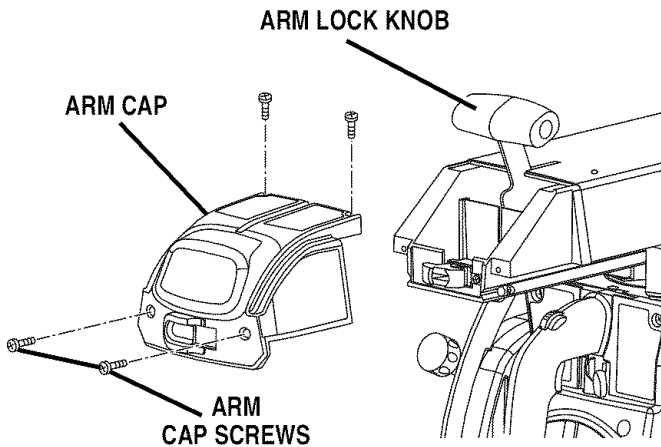

Fig. 12B
- Remove the arm cap screws and arm cap from the front of the arm with a phillips screwdriver. See Figure 12B.